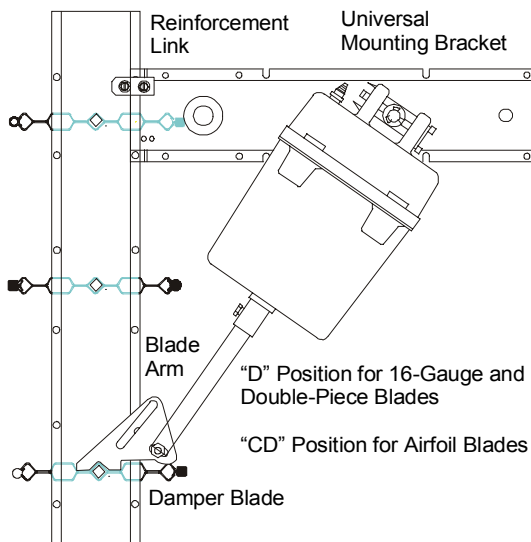

**Figure 9: Mounting Distance**
3. Verify that the distance from the E-ring in the center groove is approximately 2-3/8 inches from the surface of the universal mounting bracket, as shown in Figure 9.